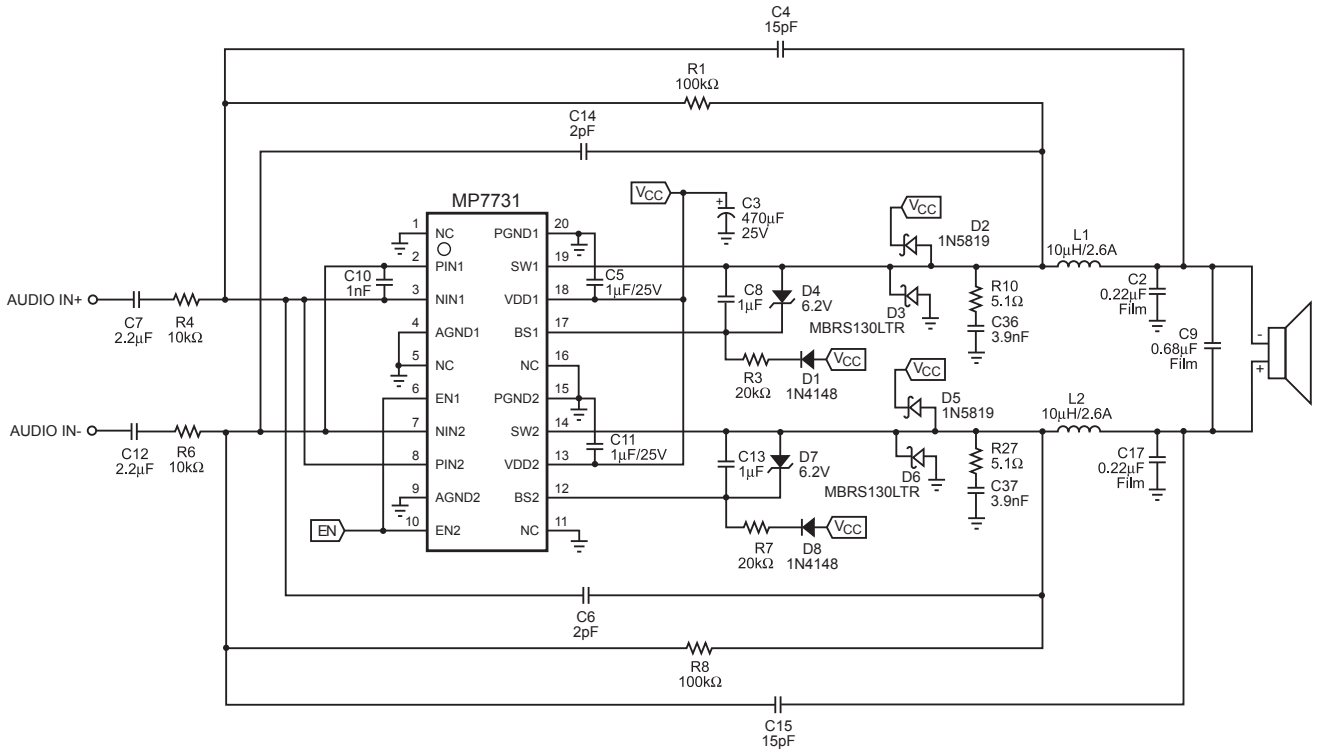

Figure 1— Mono Full Bridged Circuit
Circuit of Figure 1, $V_{DD} = 16.5V$, $V_{EN} = 5V$, $R_L = 4\Omega$, $T_A = +25^\circ C$, unless otherwise noted.
- 6) Operating Specifications are for the IC in Typical Application circuit (Figure 1).
Circuit of Figure 1, $V_{DD}=16.5V$, $T_A=25^{\circ}C$, unless otherwise noted.
The MP7731 uses a minimum number of external components to complete a fully bridged Class D audio amplifier. The circuit in Figure 1 shows a typical application. Use the following sections to customize the amplifier for your particular application.
Typical values for the LC filters are shown in Figure 1. The characteristic frequency of the LC filter needs to be high enough to allow high frequency audio to reach the output, yet needs to be low enough to filter out high frequency contents of the pulses from SW.